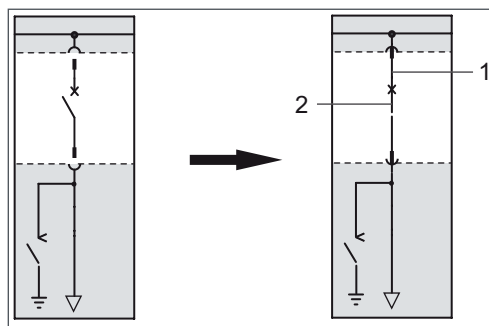

Figure 56
1. Move the truck to the service position (Figure 56, 1).
2. Switch circuit breaker ON (2).